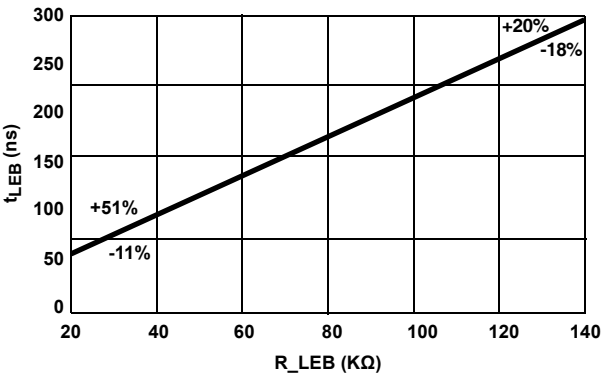

FIGURE 11. R_LEB vs t_LEB
- The blanking time can be estimated with Equation 9, whose relationship can be seen in Figure 11. The percentages in the figure are the tolerances at the two endpoints of the curve.